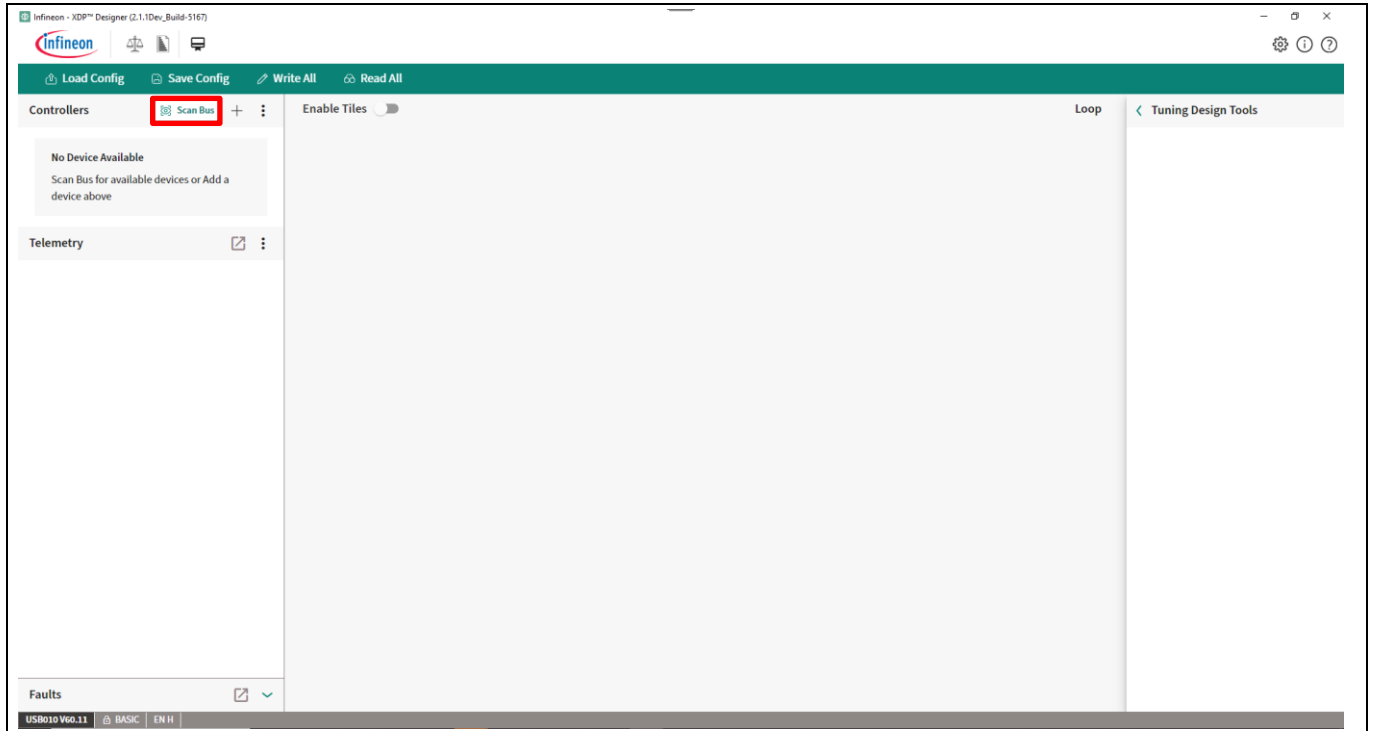

Figure 7 XDM700-1 detection
2. Click **Scan Bus**, as shown in Figure 7